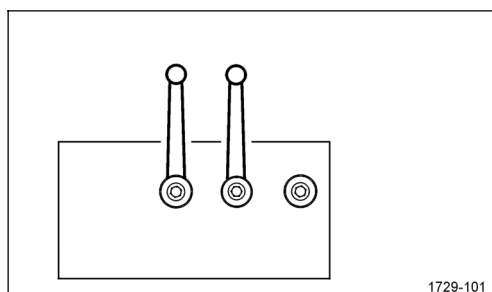

Figure 66
**Note!** For normal production both ball valves must point to the machine (see Figure 66)!
- ☐ Left machine side: Adjust ball valves of the hydraulic block according to Figure 66.